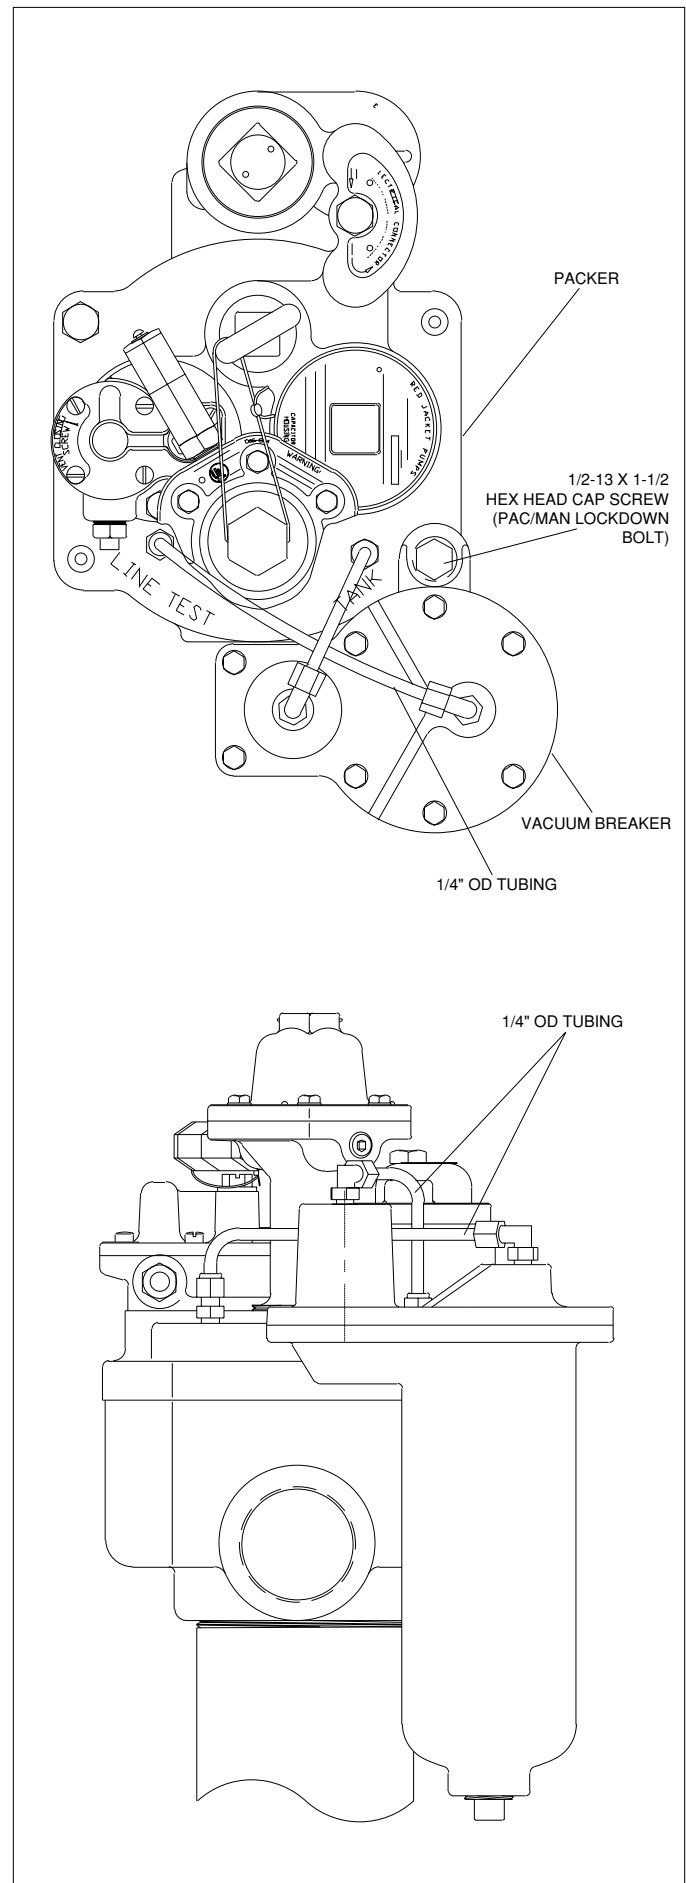

Figure 1
3. Remove the 1/2 inch hex head cap screw (pac/man lockdown bolt) adjacent to the manifold tank 1/4 inch NPT pipe plug. Refer to Figure 1.
- a. If using in conjunction with an FX1, FX1D, XLD or DLD leak detector, apply U.L. classified non-toxic pipe thread sealant to the 1/4 NPT threads on two straight tube fittings and install into the two 1/4 NPT openings in the packer (line test and tank), see figure 1.
5. Mount the vacuum breaker (eliminator) using the 1/2 inch, 13 x 1-1/2 hex head cap screw supplied with the assembly. Reference Figure 1.
- b. Install tubing as shown in figure 1.